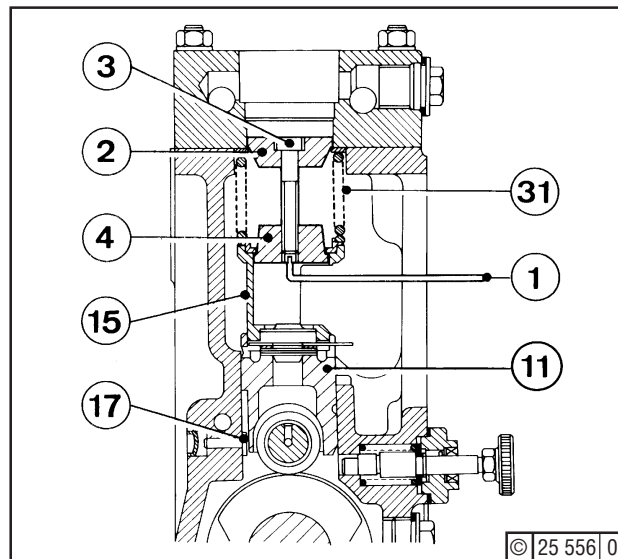

Fig. 2
Refitment is effected in the reverse order to removal. Guide pin (17) - Fig. 2 - into groove of tappet.